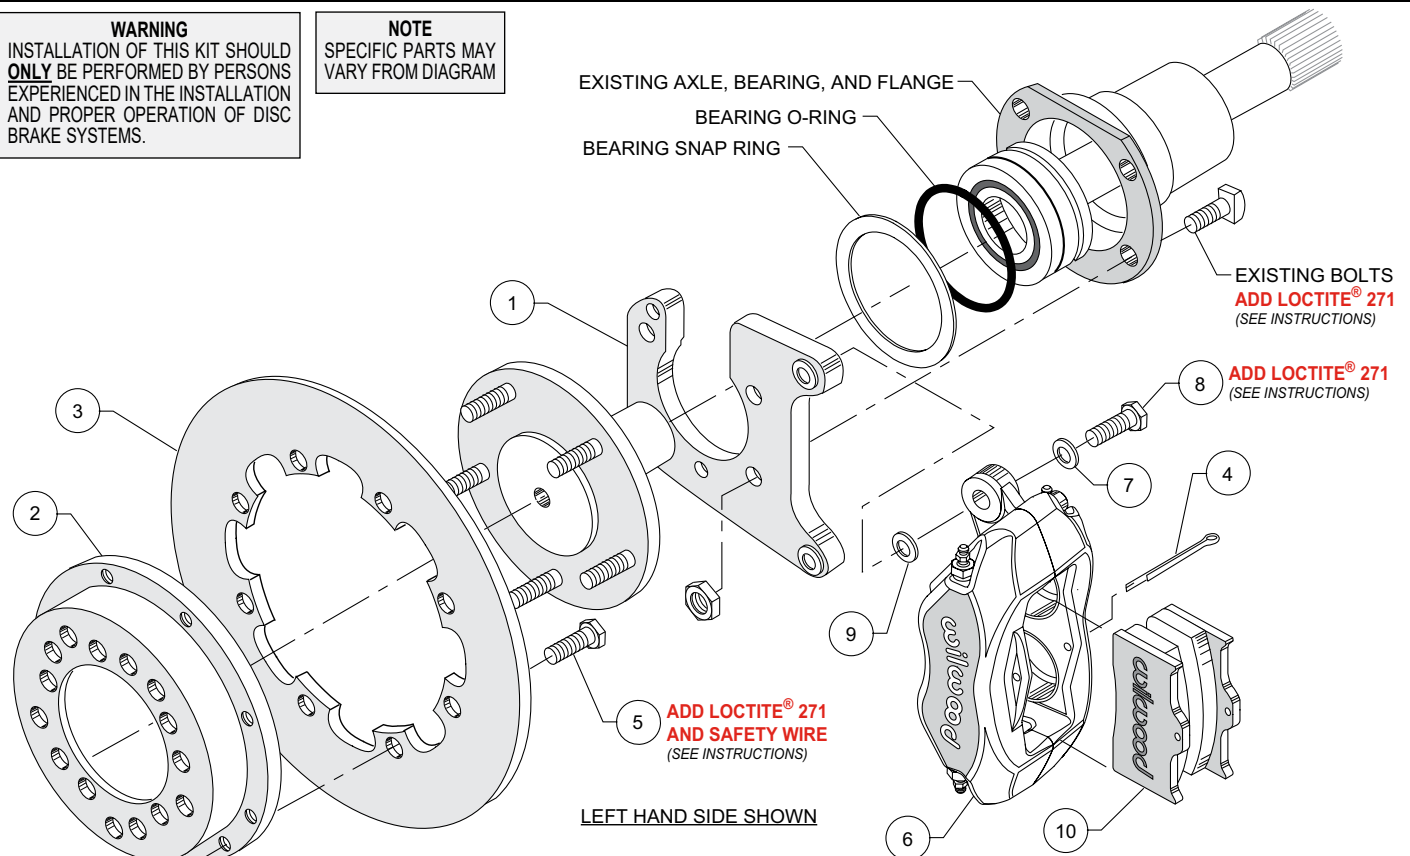
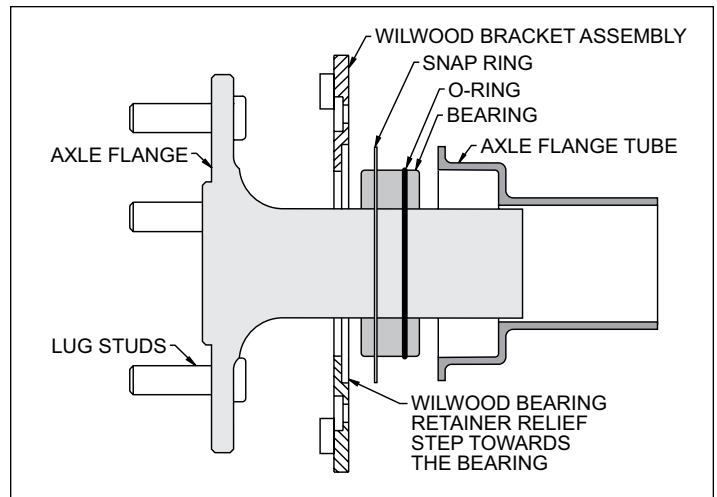
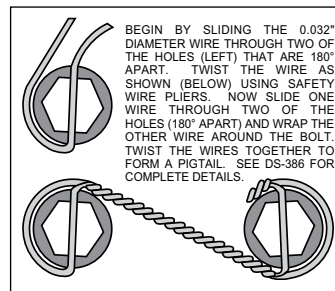
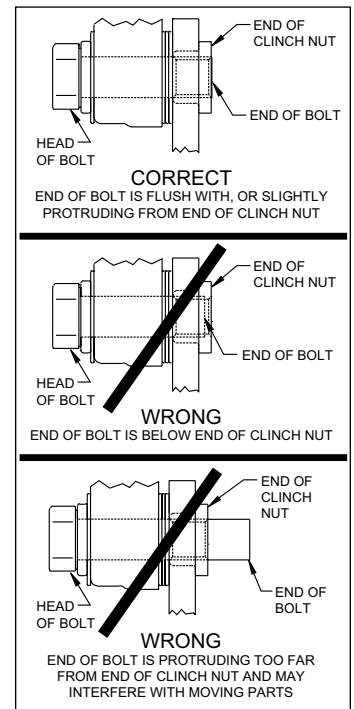

Figure 3. Typical Installation Configuration
Figure 5. Retainer / Axle Diagram
Figure 6. Safety Wire Diagram
Figure 7. Clinch Nut Engagement Diagram
NOTE: Numbers in parenthesis refer to the parts list and Figure 3 on the preceding pages.
CAUTION: All mounting bolts must fully engage clinch nuts. Be sure to check that all bolts are either flush or protruding through flanged side of clinch nut after shimming, Figure 7.
- Temporarily remove the snap ring and o-ring from the bearing. Use care so as not to damage those components. Orient the bracket assembly (1) as shown in Figure 3 and slide it onto the axle and past the bearing. Reinstall the snap ring and o-ring onto the bearing, again using care. Insert the axle and bracket assembly into the axle housing. Ensure that the bracket assembly plate fits flush against the axle housing flange. **NOTE:** The bearing snap ring should be sandwiched between the axle housing flange and the new bracket assembly, Figure 5. Secure bracket assembly to the axle housing flange using the Original Equipment Manufacturer (OEM) bolts and nuts, Figure 3. Stock OEM hex nuts that retain the bracket (1) should be on the wheel side of the bracket. Apply red *Loctite*® 271 to the OEM bolt threads and torque to OEM specifications. **NOTE:** Make sure the heads of the caliper mounting bracket insert nuts are FACING OUTWARD TOWARDS THE WHEEL, see Figure 3.
- Orient the rotor (3) and the hat (2) as shown in Figure 3. Attach rotor to hat using bolts (5). Apply red *Loctite*® 271 to the bolt threads and torque to 25 ft-lb using a criss-cross pattern. Safety wire bolts (5) using standard 0.032 inch diameter stainless steel safety wire as shown in Figure 6. Please refer to Wilwood's data sheet DS-386 (available at www.wilwood.com/Pdf/DataSheets/ds386.pdf) for complete safety wire installation instructions.
- Align the correct hole pattern in the hat (2) with the stud pattern on the axle flange and slide into place, Figure 3. **NOTE:** The rotor/hat must fit flush against the axle flange or excessive rotor run out may result. Install three lug nuts (finger tight) to keep the rotor/hat assembly in place while continuing with the installation. **NOTE:** Some OEM and after market axles come with stud sizes larger than 0.50" diameter. Verify stud size and have a qualified machine shop drill the bolt circle of the hat/rotor to the correct stud size, if necessary.
- **NOTE:** Please reference the caution statement at the beginning of the assembly instructions. Mount the caliper (6) onto the caliper mounting bracket (1) using bolts (8) and washers (7), as shown in Figure 3. Initially place one .032" thick shim (9) on each bolt between the caliper and the bracket, Photo 1. Temporarily tighten the mounting bolts and view the rotor (3) through the top opening of the caliper. The rotor should be centered in the caliper, Photo 2. If not, adjust by adding or subtracting shims between the bracket and the caliper. Always use the same amount of shims on each of the two mounting bolts. **NOTE:** The end of each bolt must be flush with or slightly protruding from the head of the clinch nut, as shown in Figure 7. If necessary place spare shims between washer (7) and caliper mounting ear to achieve the proper clinch